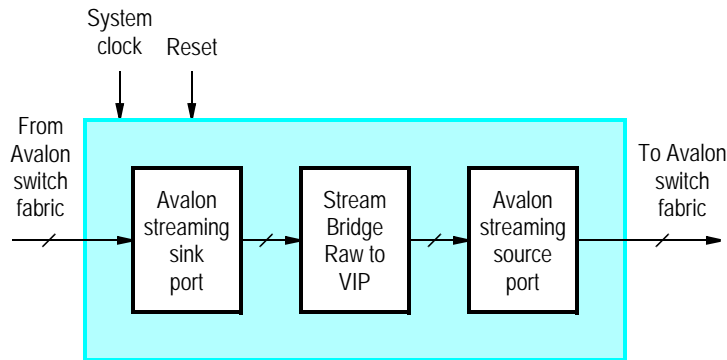

Figure 61. Video-Stream Bridge: Raw to VIP core’s block diagram.
The Raw-to-VIP bridge take an input stream in the University Program (UP) video stream format and converts it to the VIP format. Then, the VIP-formatted data is outputted via the Avalon streaming source interface. Figure 61 shows a block diagram of the core. The UP video stream format is essentially raw video data, as described in Section 3.2.